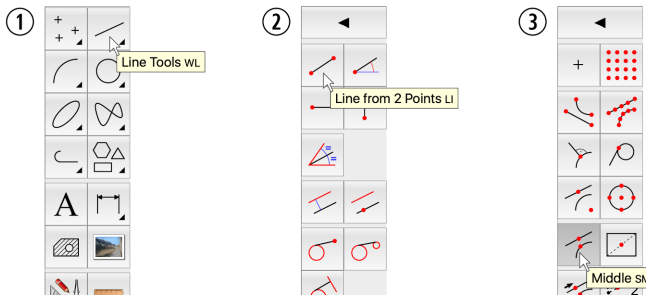

Figure 3-4: Choosing the CAD tool for drawing lines with two points and changing the snap tool to *Snap to middle points*.
1. Choose the *Line Tools* button again from the CAD toolbar as shown in Figure 3-4 (1).
2. This time, select the tool *Line from 2 Points* (2).
3. Click the button *Middle* (3). This activates the snap tool to snap to middle points of lines and arcs. Note that only one snap tool can be active at any time.